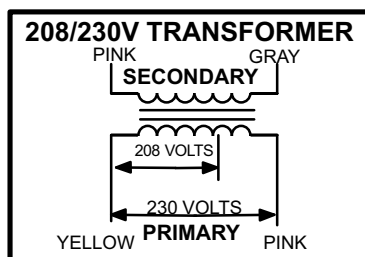

FIGURE 5
All use a single line voltage to 24VAC transformer mounted in the control box. Transformer supplies power to control circuits in the unit. The transformer is rated at 70VA and is protected by a 3 amp (auto) fuse F1. The 208/230 (Y) voltage transformers use two primary voltage taps as shown in figure 5, while 460 (G) and 575 (J) voltage transformers use a single primary voltage tap.